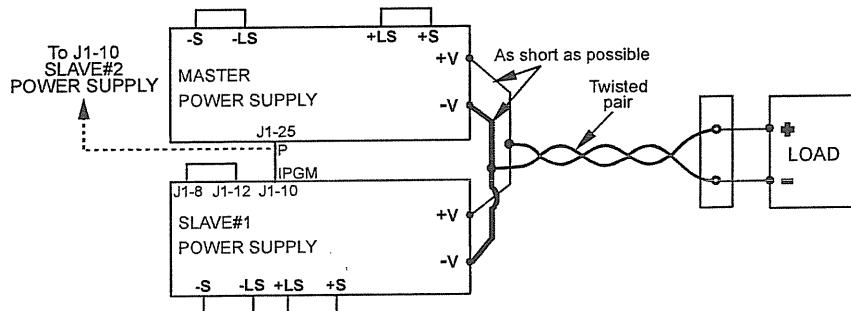
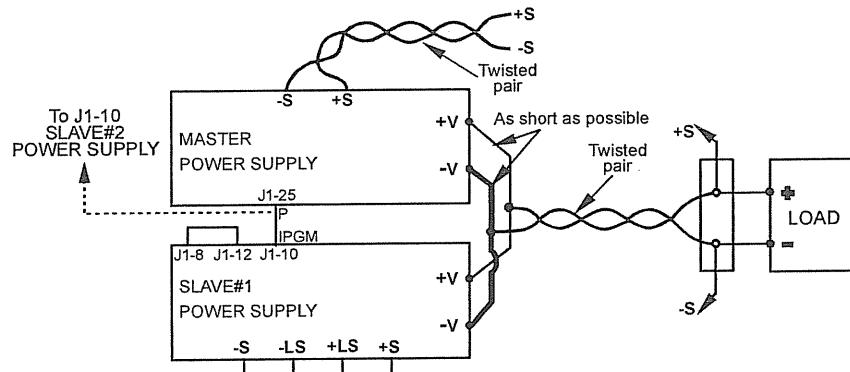

Fig.5-4: Parallel connection with local sensing
Fig.5-5: Parallel operation with Remote sensing
Set the Master unit Output Voltage to the desired voltage. Program the Output Current to the desired load current divided by the number of parallel units. During operation, the Master unit operates in CV mode, regulating the load voltage at the programmed Output Voltage. Connect the sensing circuit to local or remote sensing as shown in Fig.5-4 or fig.5-5.
In parallel operation, power supplies can be connected in local or remote sensing. Refer to Fig. 5-4 and 5-5 for typical connections of parallel power supplies. The figures show the connection of two units, however the same connection method applies for up to 4 units.
- j) Select Local or Remote sense - Ref. Figures 5-4 and 5-5